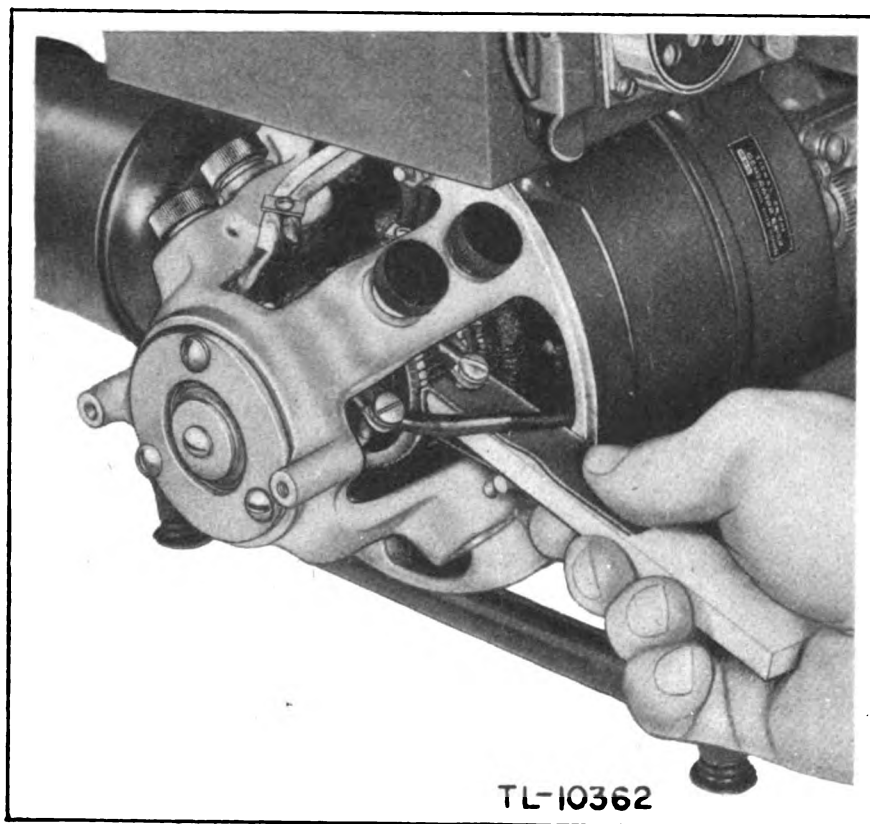

Figure 71—Dressing Commutator
a. To Clean Commutators.—Clean commutators by touching very lightly with a fine grain sandpaper (No. 000) or crocus cloth while the armature is rotating (Fig. 71). Stop the unit and use a knife or screwdriver to remove oil, dust or carbon from between bars of commutators.